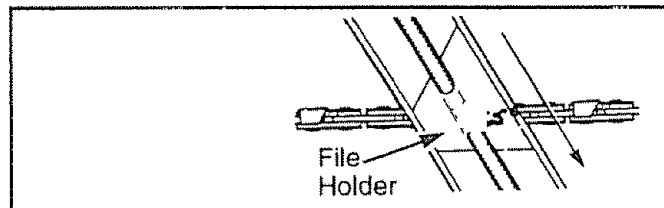

Figure 35
- Keep the 25° line on the file holder parallel to the center of the chain. Reverse procedure for other side. See Figure 35.